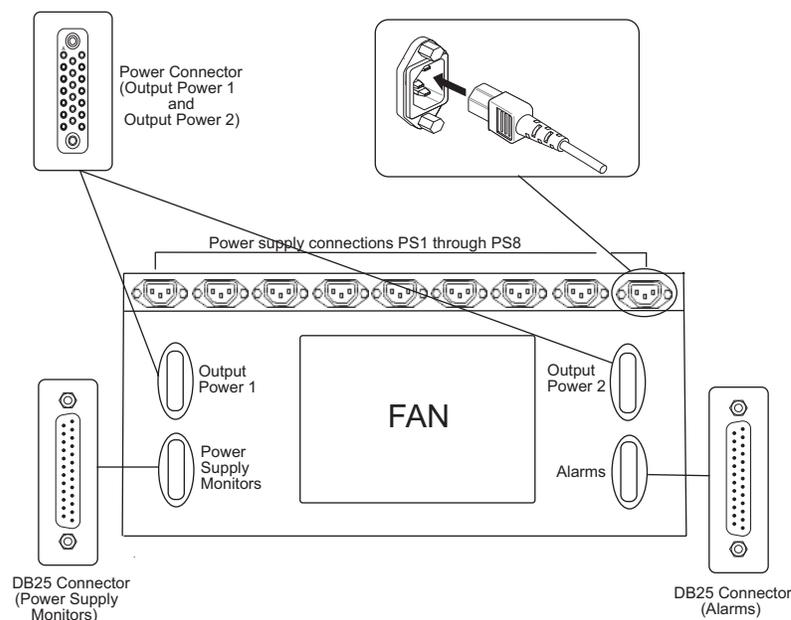

Figure 3-4. NV6257 Power Supply (Rear View)
- 3 Facing the rear of the **NV6257**, connect the provided 20-pin GMCT connector to 'Output Power 1', as shown in Figure 3-4.
- 5 Facing the rear of the **NV6257**, connect the provided monitor cable and connector to ‘Power Supply Monitors’, as shown in Figure 3-4 on page 37.